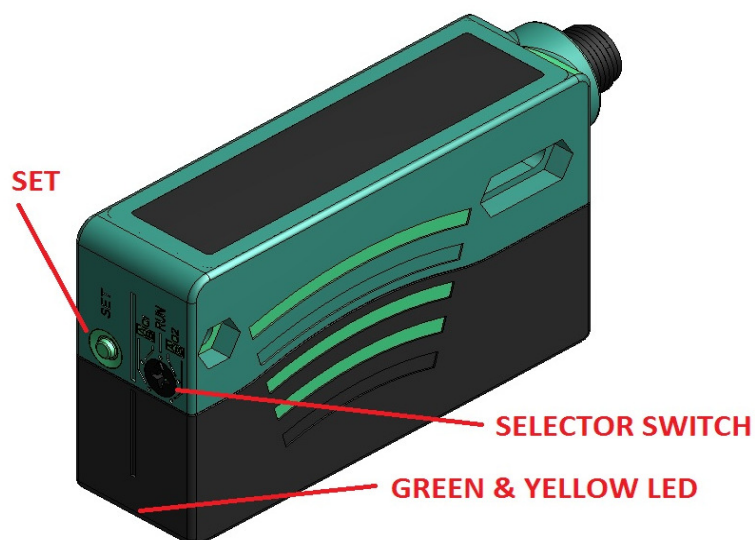

Figure: 5
- 1: Place selector switch in the run mode and press and hold the set button down for 10 full seconds until the flashing LED's go out. This has reset any set points to factory default. (Figure: 5)